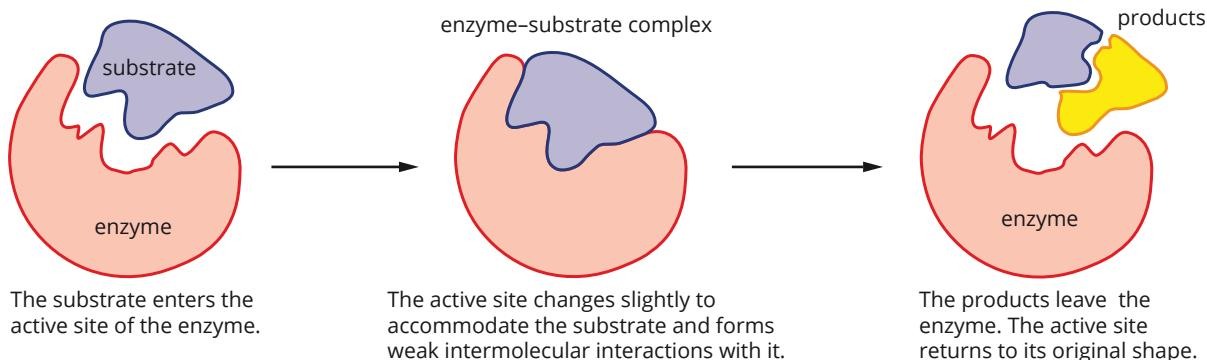

FIGURE 16.2.6 Steps in the action of an enzyme, according to the induced fit model.
As Figure 16.2.6 shows, the flexible active site can mould itself to achieve a better fit for substrate molecules. After the reaction, the products are released from the active site and the active site returns to its initial shape.
- A newer model for enzyme action is the induced fit model, summarised in Figure 16.2.6 on page 530. This model accounts for the flexibility of many enzymes' active sites.